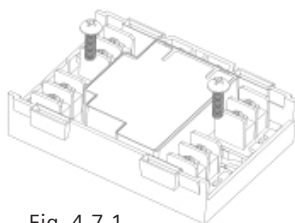

Fig. 4.7.1
- Remove key, open the housing.(Fig. 4.7.1) Keep the key in a safe place.
1. Open cover with key (see Fig. 4.7.1).